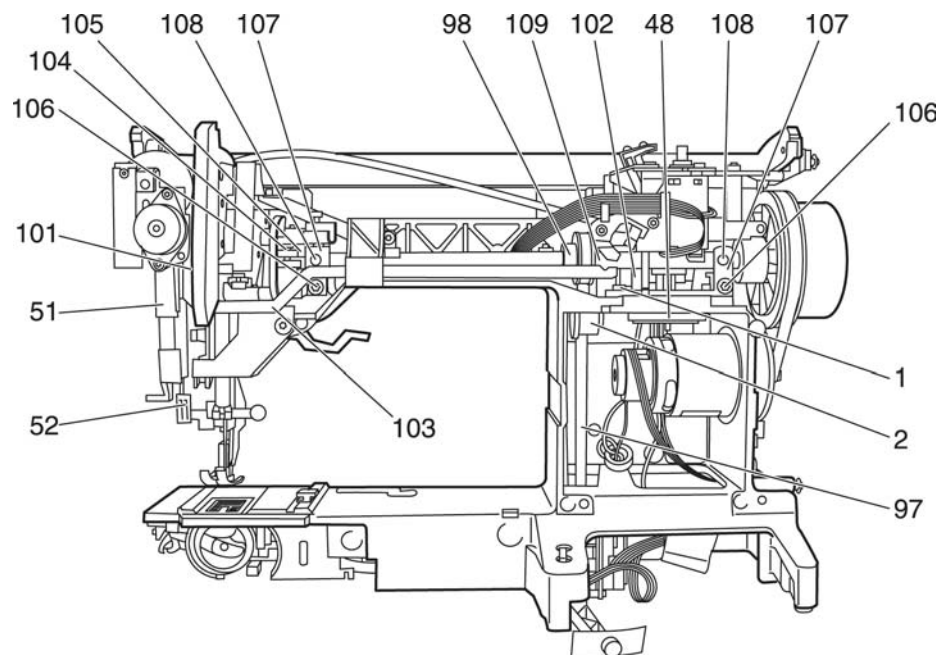

Fig. 28c
- Disconnect tension spring 101 on needle bar frame 51 (fig. 28c).
- Feed arm shaft 109 from the right into the housing (fig. 28c).